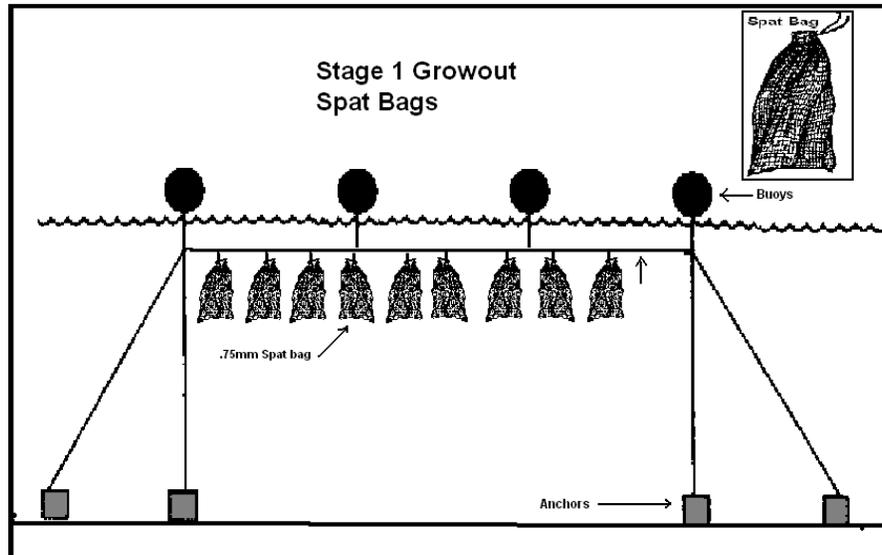

Figure 1
**.75mm Spat Bags** are filled with netron to hold bags open and allow scallops more area to spread out. Each bag contains a rock 1" in diameter to hold bags down in the water. Bags are tied to a rope, called a string, which is anchored on both ends. Strings have buoys for floatation to keep bags off the bottom. See Figure 1.
Growout strings with 3mm spat bags were buoyed and anchored just like stage 1 bags in Figure 1. In most instances, .75mm spat bags containing scallops over 3mm were divided between 3 or 4 other bags. Each new bag was set up similar to stage1 with netron and a 1" diameter rock in the bottom. The bags were transferred to longer growout lines designated STGO1, STGO2, STGO3 and STGO4. When scallops were divided at a smaller size like 3-10mm they had an easier time reattaching to bags and spreading out. Larger 10mm seed would sit on the bottom of the bag and not grow as much. To help scallops spread out, bags were tied onto their side (hung horizontally) for a period of three to five days. When bags were cut and hung in the vertical position, scallops stayed spread out, which gave them ample room to grow. The result was better growth and lower mortality. After the bags were divided, scallops were checked periodically. If scallops outgrew stage 2 media, they were divided again or field planted. Spat bags are inexpensive and the easiest type of growout material used in 2007. They